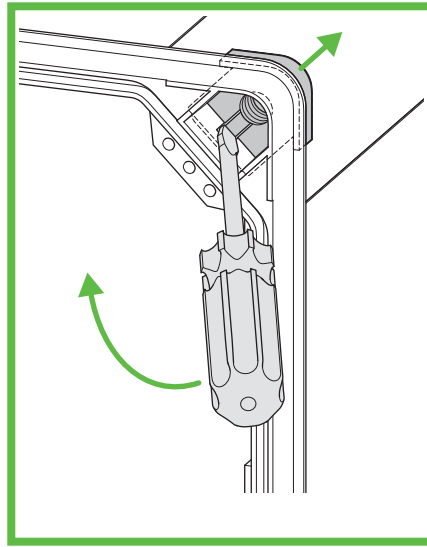
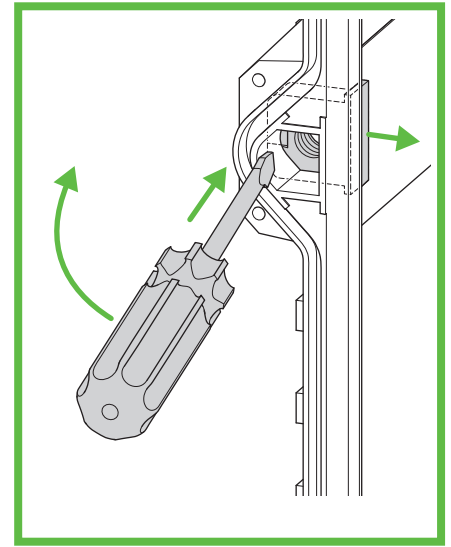

Figure 5: Lever out the threaded insert (corner)
Figure 6: Lever out the threaded insert (side)
- ▶ Using the screwdriver, lever out the threaded inserts (Abb. 5 and Abb. 6).